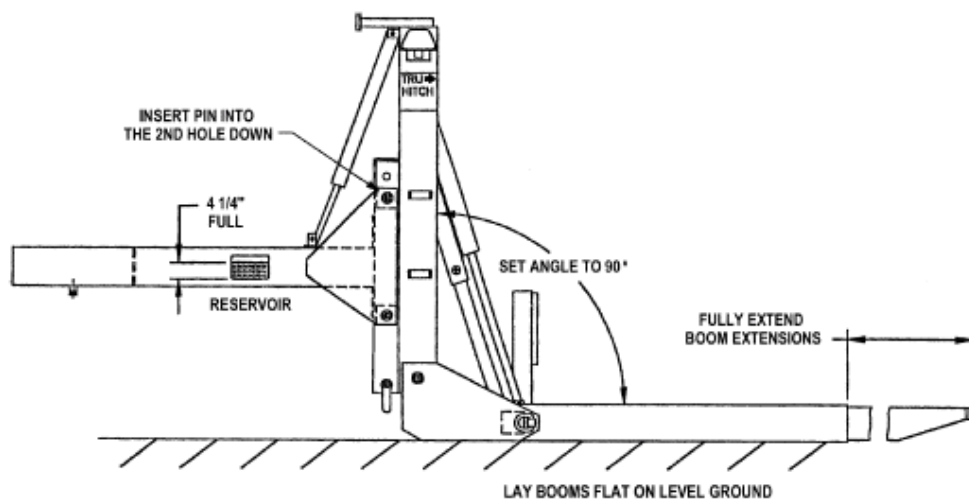

Figure 104. Hydraulic System
18. UNCOUPLE fifth wheel towing device from prime mover and place into OIL FILL configuration. (Figure 104, WP 0056 00-7).
19. With fifth wheel towing device in oil fill configuration (Figure 104, WP 0056 00-7), check oil level. Add new oil as necessary.
20. Couple fifth wheel towing device to prime mover and fold coupled towing device onto prime mover using TRANSPORT CONFIGURATION steps (1) through (9) (WP 0007). DO NOT remove pivot pins.
21. Return fifth wheel towing device to oil fill configuration Figure 104. Check oil level. Add new oil as necessary.